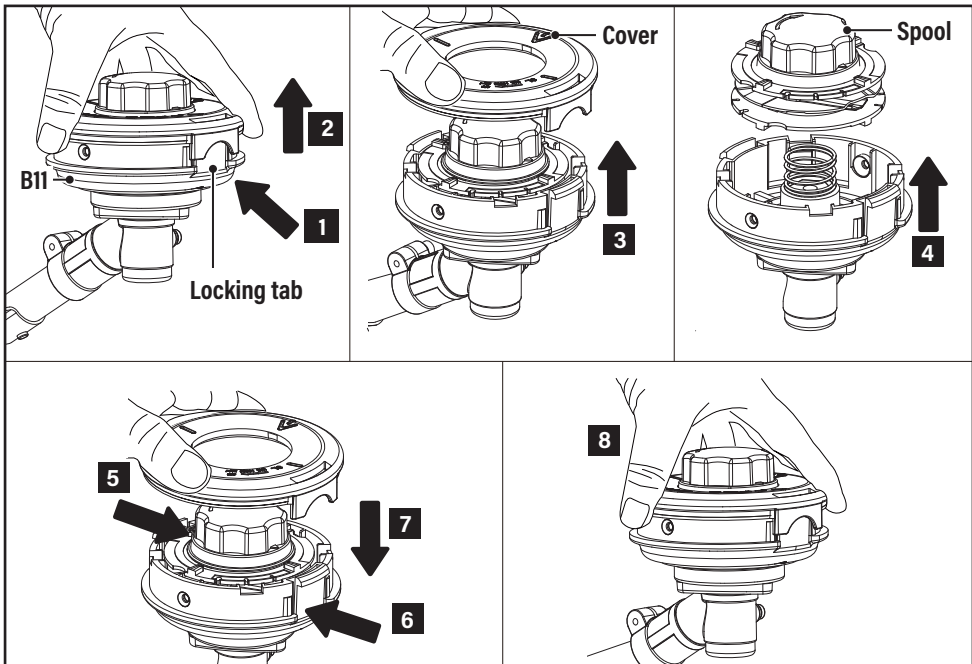

Fig. 15
2. Hold the cover of the string trimmer head (B11). Using the index finger and thumb firmly squeeze the locking tabs on the string trimmer head (Fig. 15, step 1, 2). Remove the cover of the string trimmer head (B11) (Fig. 15, step 3).
3. Remove the spool from the string trimmer head (B11) (Fig. 15, step 4).
4. Install the new spool into the string trimmer head (B11) (Fig. 15, step 5).
6. Press the locking tabs (Fig. 15, step 6) and push the cover of the string trimmer head (B11) onto the string trimmer head housing (Fig. 15, step 7). Make sure they are secured tightly.